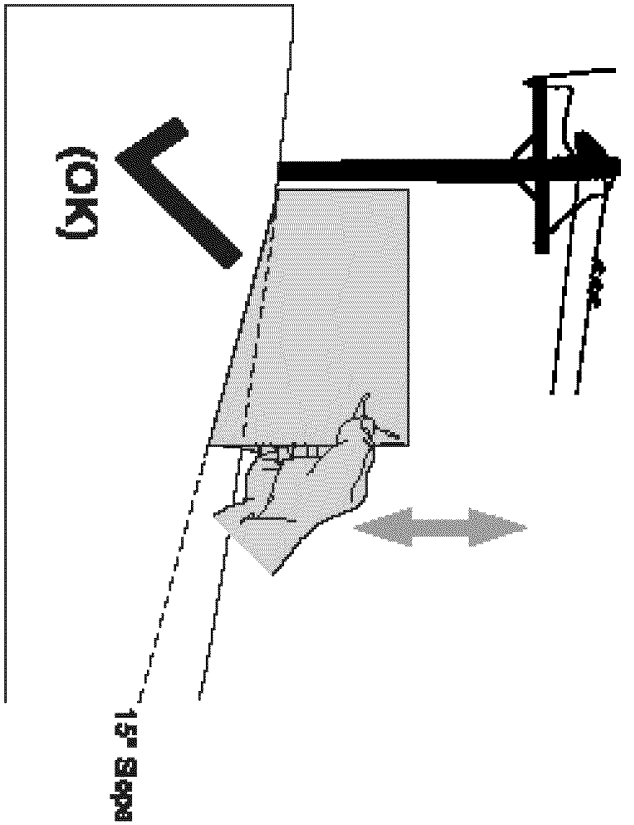
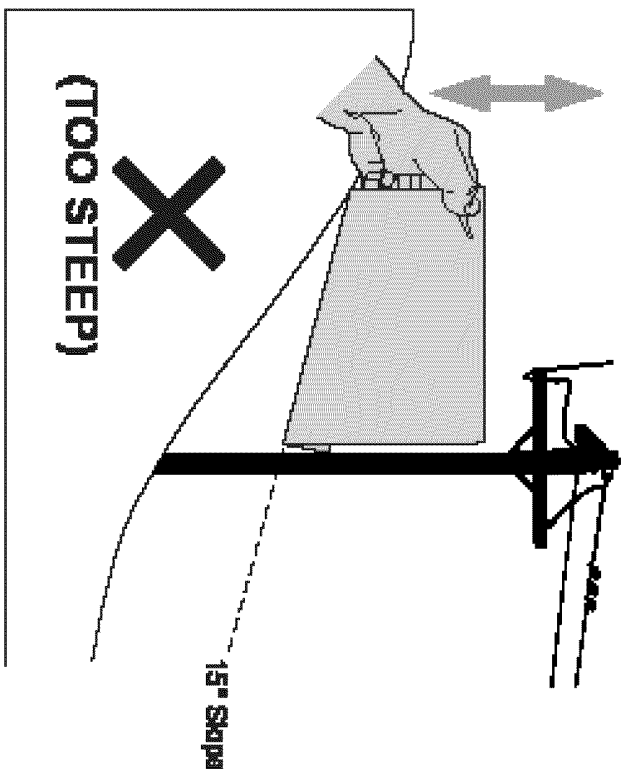

Figure 1
Figure 2
3. Align either side of the slope gauge with the object (See Figures 1 and Figure 2).
4. Adjust gauge up or down until the left corner touches the slope (See Figure 1 and Figure 2).
5. If there is a gap below the gauge, the slope is too steep for safe operation (See Figure 2 above).